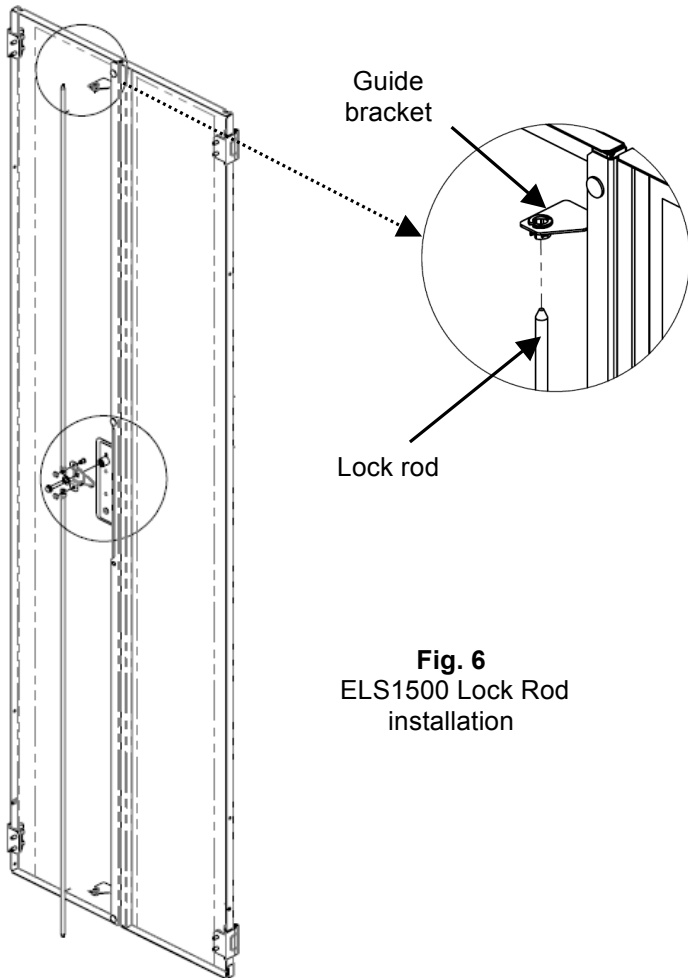

Fig. 6
4. Insert the lock rods through the guides, with the short rod at the top and the long rod at the bottom of the door (Fig. 6).